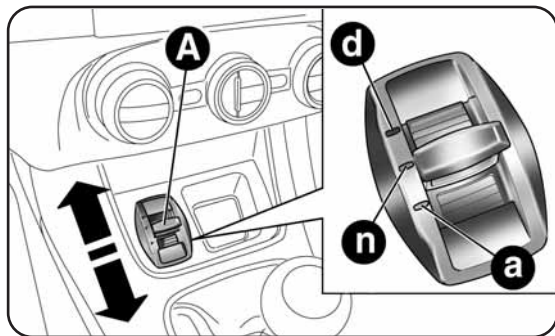

fig. 80
This device allows, using switch A-fig. 80 (on the central tunnel), three response modes to be selected according to driving style and road conditions:
When the lever A-fig. 80 is moved to "d" position, the activation of "Dynamic" mode is confirmed by a temporary variation in the brightness (flashing) of the instrument panel.
Switch A-fig. 80 is a monostable switch, i.e. it always remains in the central position. The selected driving mode is indicated by the corresponding LED coming on in the panel and by an indication on the reconfigurable multifunction display, as illustrated below:
Move lever A-fig. 80 upwards (to the letter “d”) and hold in this position for 0.5 seconds until the corresponding LED lights up or the word “Dynamic” appears on the display (see figures). The switch A will go back to central position after having been released.
Move switch A-fig. 80 downwards (to the letter “a”) and hold in this position for 0.5 seconds until the corresponding LED lights up or the word “All Weather” appears on the display (see figures).
To disengage “All Weather” mode and return to “Normal”, carry out the same procedure described for “Dynamic” mode, however moving lever A-fig. 80 to “a”.
- In the event of system failure or a fault with lever A-fig. 80, no driving modes can be selected. The display will show a warning message.